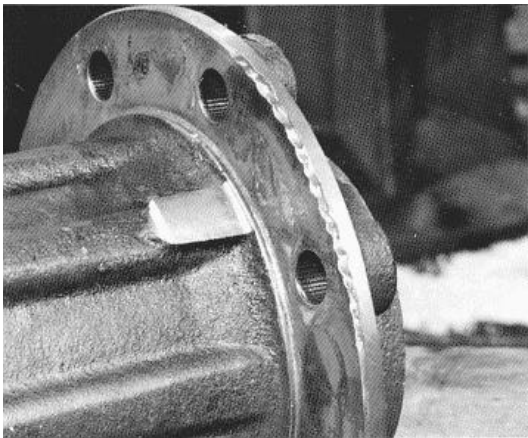

Figure 36 Worn Mounting Face
2. Worn Mounting Face (Figure 36). This condition is caused by a loose wheel assembly with outboard mounted drum. The outer mounting face of the brake drum is worn. Replace hub or brake drum.